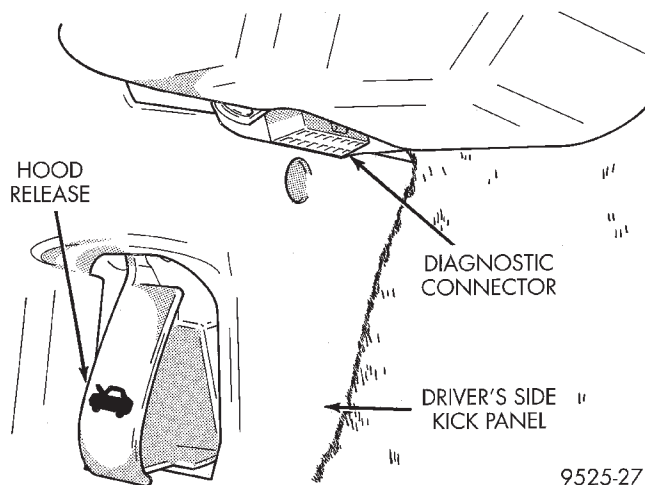

**Fig. 9 ABS System Diagnostic Connector Location**
(1) Assemble and install all brake system components on vehicle making sure all hydraulic fluid lines are installed and properly torqued.
(2) Connect the DRB scan tool to the diagnostics connector. The diagnostics connector is located under the lower instrument panel next to the left kick panel (Fig. 9).